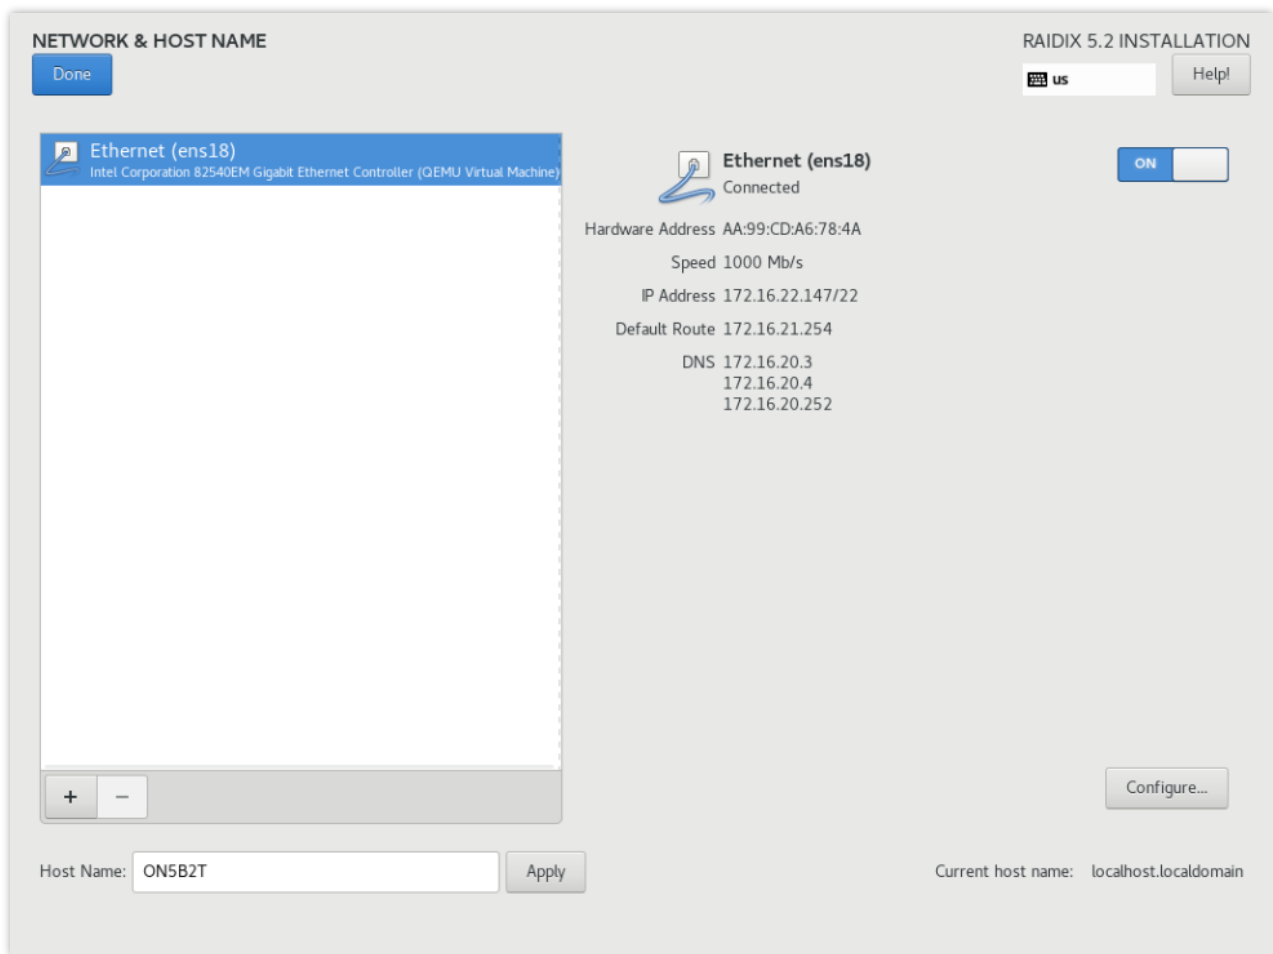

Figure 18. NETWORK & HOST NAME page
2. On the opened *NETWORK & HOST NAME* page (Figure 18), you can configure detected networks, or create new ones as well as rename the host.